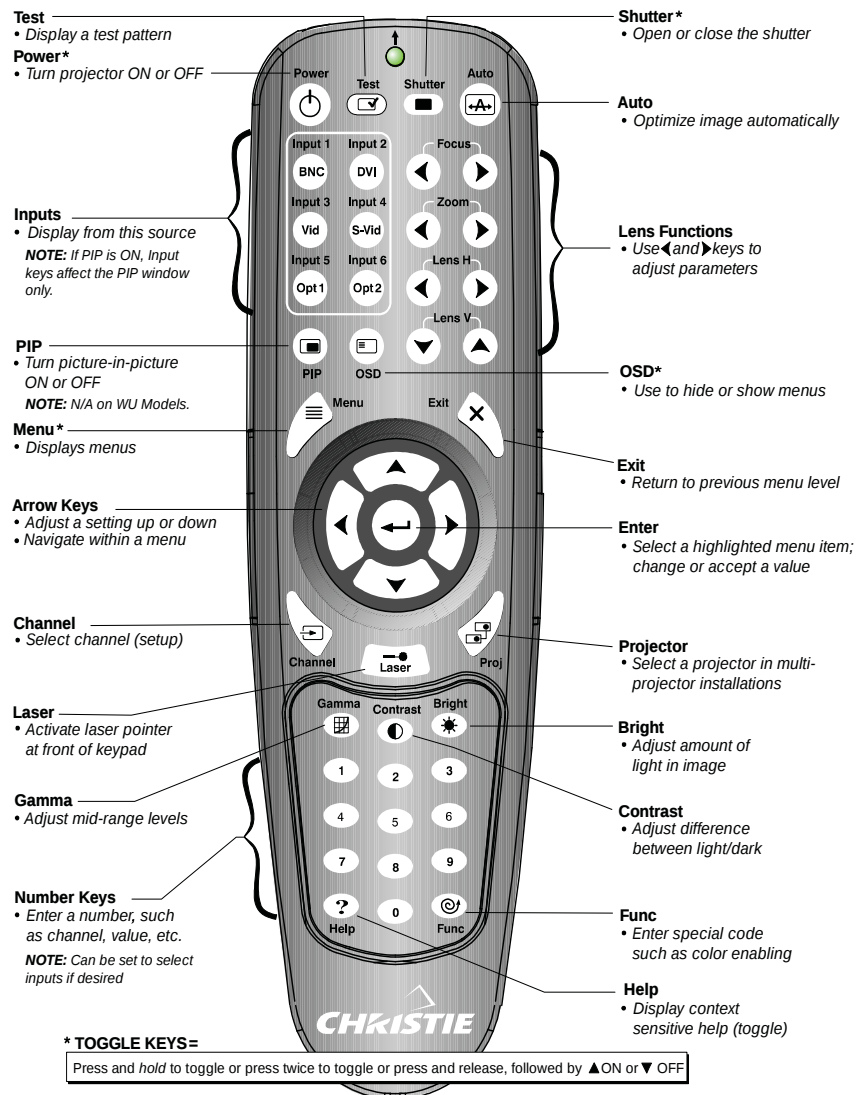

Figure 3-3 Remote Keypad
- **The Remote keypad** (Figure 3-3) for tethered or tether-less control (includes cable for connecting as a wired remote)